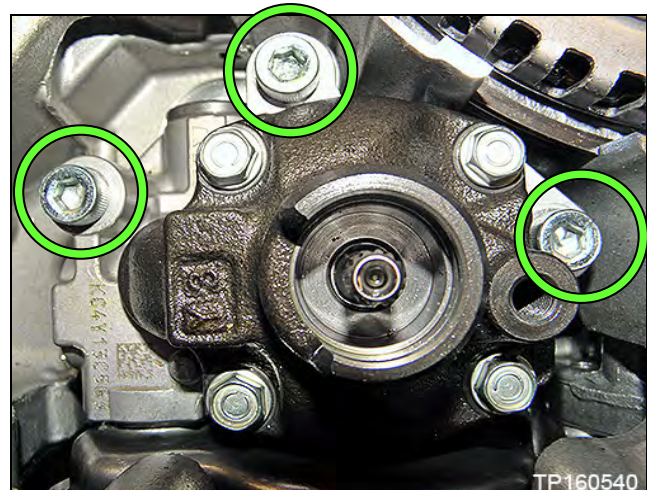

Figure 23C
- b. Remove the three oil pump Allen-head bolts, and remove the oil pump (Figure 23C).